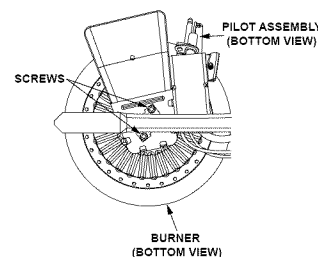

FIGURE 35.
1. Take off the burner by removing the two (2) screws located underneath the burner. **IMPORTANT:** DO NOT remove the orifice.
2. Check the burner to see if it is dirty or clogged. The burner may be cleaned with soap and hot water (Figure 35).
2. Natural Gas/LP Models - Remove the burner to access the pilot/thermopile assembly. Remove and keep the screws securing the burner to the manifold (Figure 35).
8. Using the pilot/thermopile assembly screw removed earlier reattach the new pilot/thermopile assembly. Reattach the burner to the manifold using the screws removed earlier. NOTE: make sure the burner scoop is oriented to the pilot side of the manifold tube (Figure 35).